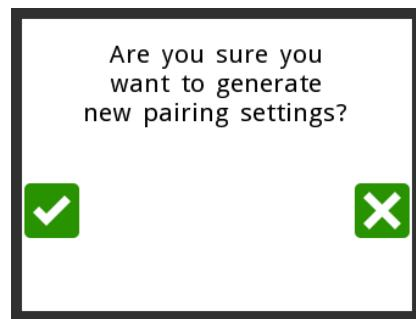

Figure 6-5 Confirm selection
4. Confirm your choice (Figure 6-5) by pressing  OK